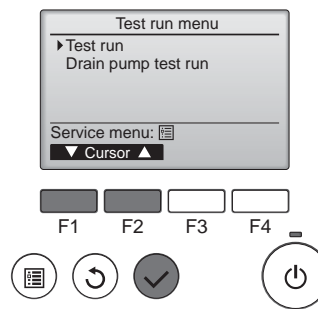

Fig. 5-4
- ④ Select "Test run" with the or button, and press the button. (Fig. 5-4)